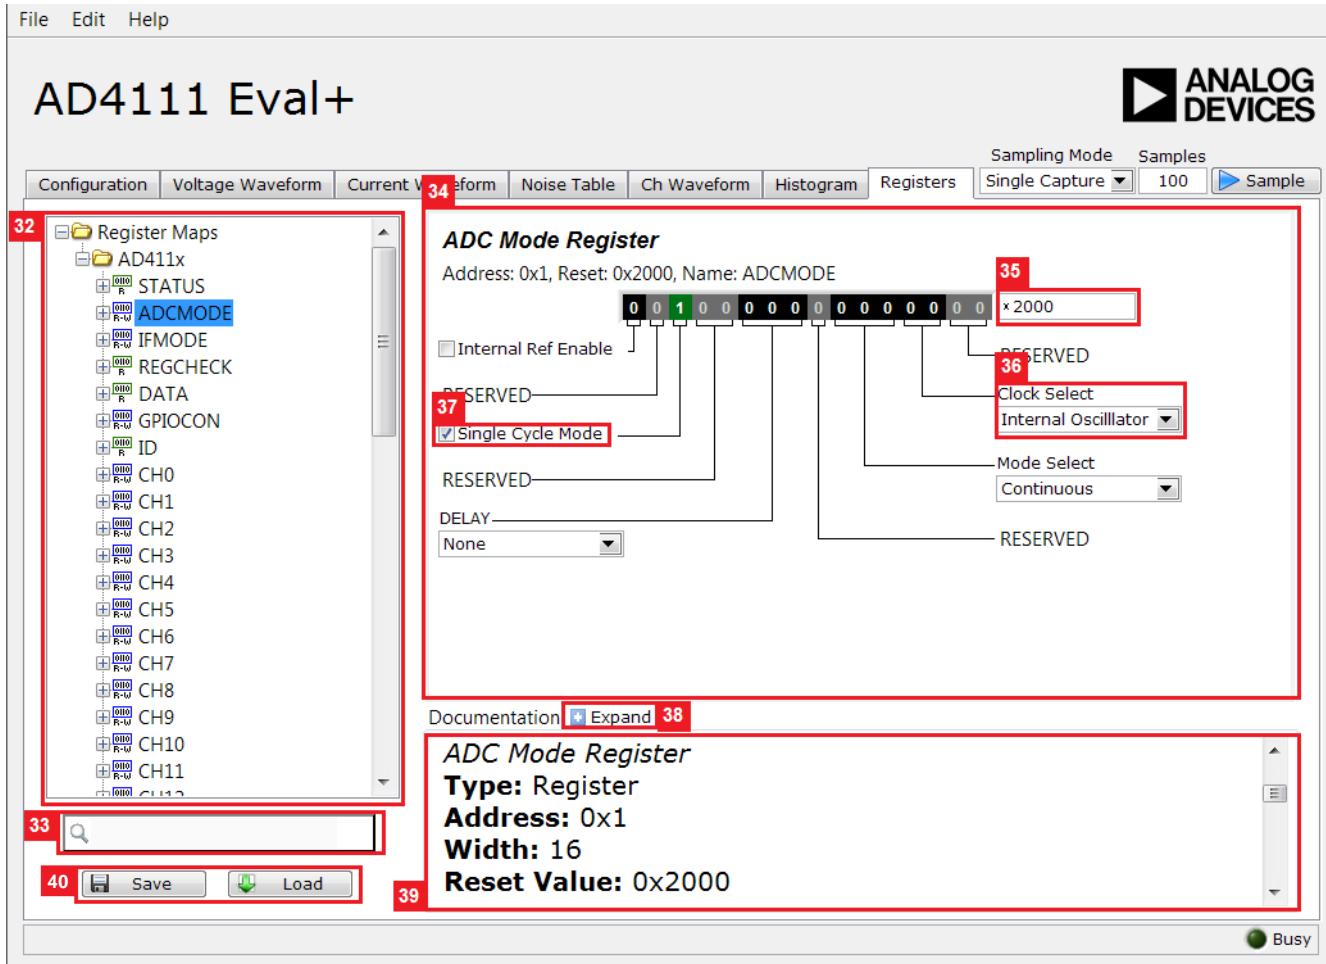

Figure 20. Registers Tab of the AD4111 Eval+ Software
The register maps nested list (Label 32 in Figure 20) shows the full register map in a tree control. Each register is shown. Clicking the expand button next to each register shows all the bit fields contained within that register.
The register tree search box (Label 33 in Figure 20) allows the user to search the tree for any register or bit field. Enter a value into this field to filter the register tree.
The register and bit field control section (Label 34 in Figure 20) allows the user to change the individual bit of the register selected in the register tree by clicking the bits or by programming the register value directly into the number control field (Label 35 in Figure 20). This control also shows all bit fields for the selected register. Change the values by using a dropdown box (Label 36 in Figure 20) or by selecting or clearing a checkbox (Label 37 in Figure 20).
The **Documentation** field (Label 39 in Figure 20) contains the documentation for the register or the bit field selected. This field can be updated by selecting a register or bit field in the register tree or hovering over the register or bit field in the register control. This documentation can also be displayed in a separate window by clicking the expand button (Label 38 in Figure 20).
**Save** and **Load** (Label 40 in Figure 20) allow the user to save the current register map setting to a file and to load the setting from the same file, respectively.